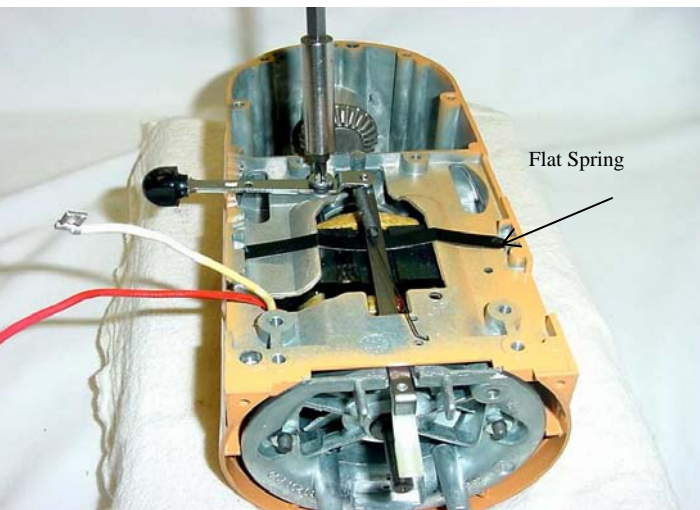

Fig. 24 The pivot screw and tension washer are removed with a phillips screwdriver.
D. To remove the speed control link and cam assembly, take out the pivot screw and tension washer (Fig. 24).